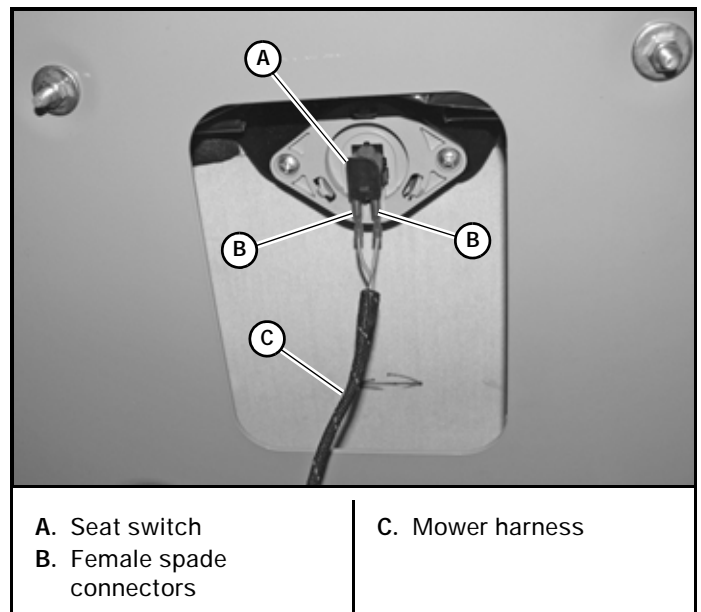
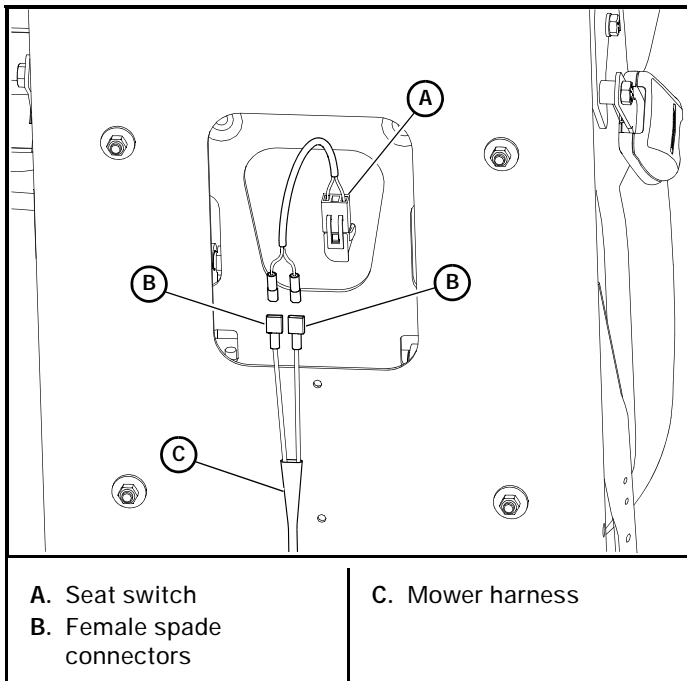

Figure 4-1
Figure 4-2
- Bypass the seat switch by connecting the two mower harness female spade connectors together. Figure 4-1 & Figure 4-2
- Reconnect them to the seat switch. This must be completed so that the safety circuit is functioning properly. Figure 4-1 & Figure 4-2